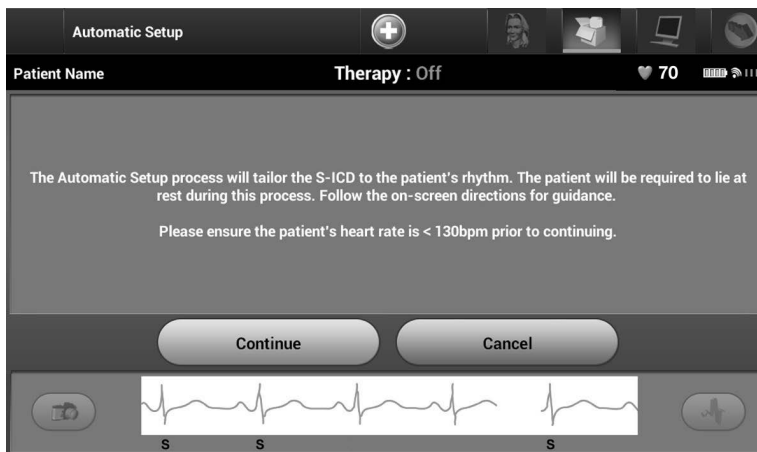

Figure 24: Automatic Setup screen
3. Select the Automatic Setup icon on the navigation bar. The Automatic Setup screen appears (Figure 24).